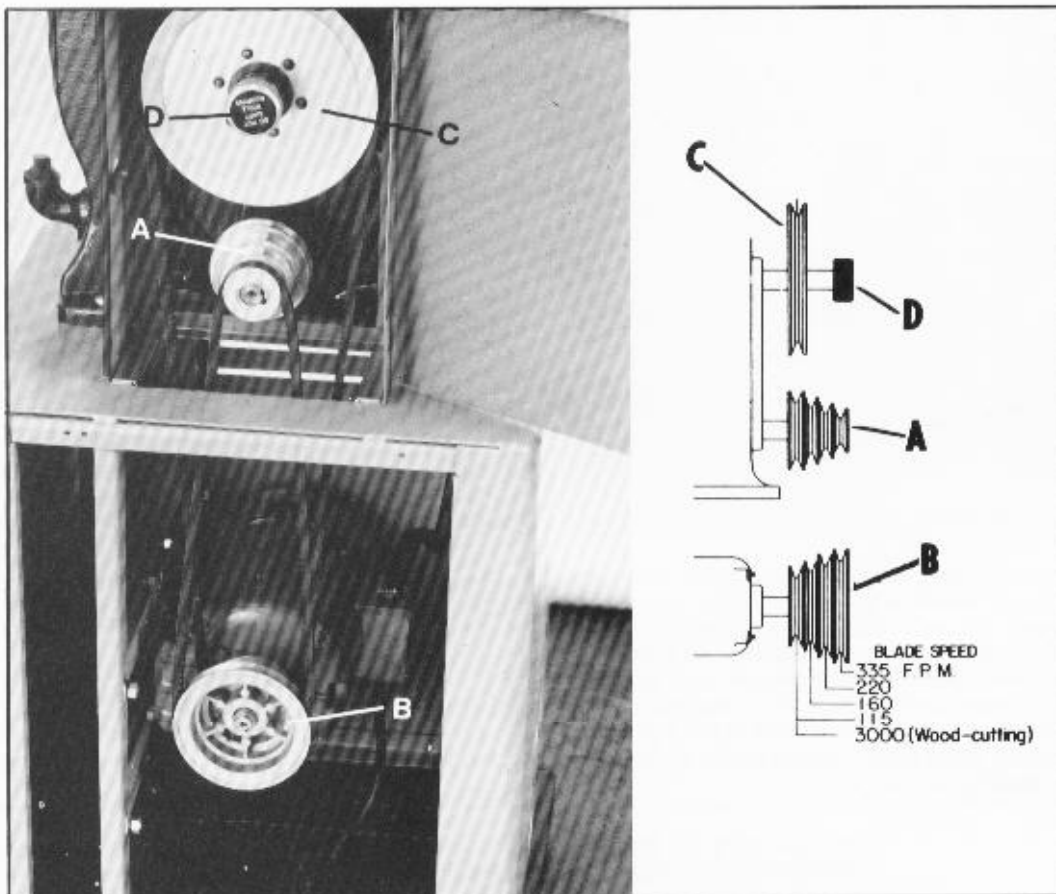

Fig. 25
Blade speeds of 115, 160, 220, 335 and 3000 FPM are available by simply interchanging the positions of the motor pulley and the gear box pulley. Fig. 25 shows the motor pulley (A) positioned on the gear box shaft and the gear box pulley (B) positioned on the motor shaft. Then with the long belt positioned on the inside groove of pulley (B) and pulley (C) and the small belt positioned in one of the remaining three grooves of the pulleys (A) and (B) Fig. 25 speeds of 160, 220, 335 FPM are obtained when the shifter knob (D) is pushed in. To obtain the 3000 FPM blade speed simply pull out the shifter knob (D) Fig. 25. Blade speed of 115 FPM is obtained by pushing in the shifter knob (D), removing the long belt from pulleys (B) and (C) and placing the small belt on the inside groove of the motor pulley (B) and gear box pulley (A).